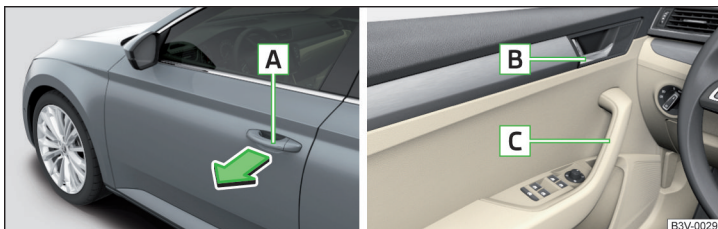

Fig. 54 Door handle/door opening lever
- › To **open from outside**, unlock the vehicle and pull the door handle **A** in the direction of arrow » Fig. 54.